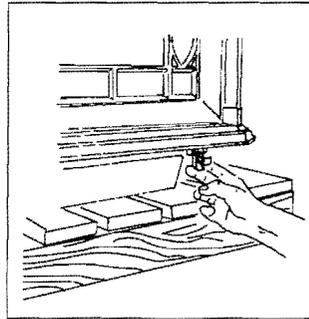

Figure 1.
Step 2. Disengage the two compression latches on the stove bottom by pulling each latch down and forward. Fig. 1.